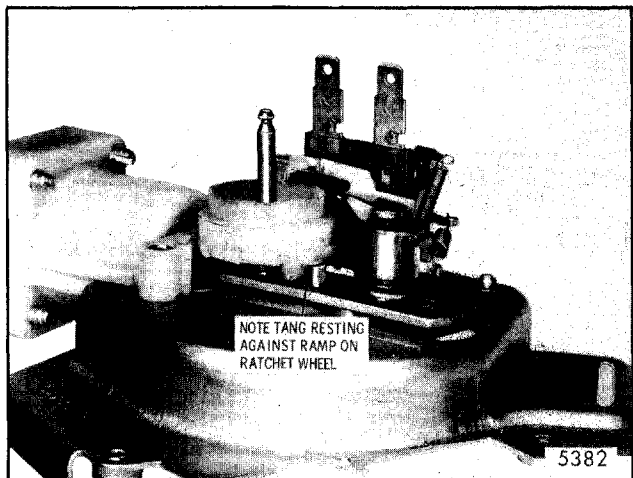

Fig. 2-107-Ratchet Wheel-Ramp
Refer to Figure 2-107 and note that a tang on the piston actuator plate is resting against a ramp on the lower surface of the ratchet wheel. This holds the piston actuator plate in a lock-out position. With actuator plate in this position and the wiper running, the cam-follower pin merely moves back and forth
The ratchet wheel pawl, which is actuated by the same cam-follower pin that moves the piston actuator plate, begins to rotate the ratchet wheel. Rotating the ratchet wheel one tooth moves the ratchet wheel ramp away from the tang of the piston actuator plate (Fig. 2-107), permitting the piston spring to expand which in turn forces the piston toward the valve assembly resulting in the first exhaust stroke. This sequence then repeats through the remaining cycles.
2. The tang on the piston actuator plate is resting once more against the ramp on the lower side of the ratchet wheel (Fig. 2-107).